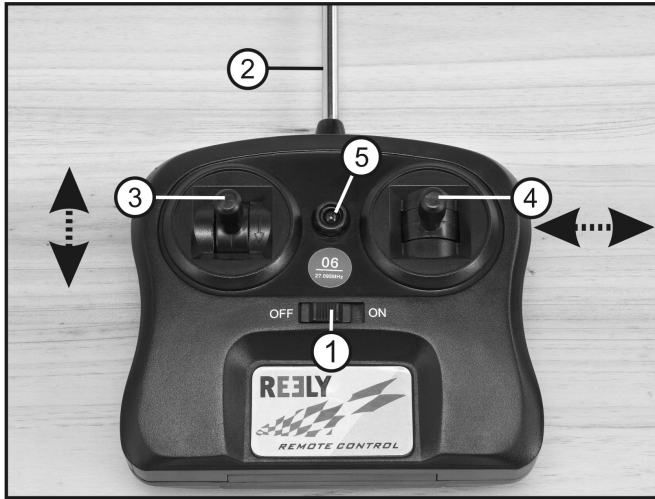

Figure 5
Check the function for forward and reverse driving: The drive lever of the transmitter (figure 5, item 3) permits control of the model's driving direction. If you push the lever forward, the two ship's propellers need to turn and the boat moves forwards. If you push the lever backward, the two ship's propellers need to turn and the boat moves backwards.
Check the function „driving to the left“. The drive lever remains in the neutral position for this function test. Push the control lever of the transmitter (figure 5, item 4) to the left. Now the right ship's propeller has to turn.
Check the function „driving to the right“. The drive lever remains in the neutral position for this function test. Push the control lever of the transmitter (figure 5, item 4) to the right. Now the left ship's propeller has to turn.
Push the drive lever (figure 5, item 3) to the front. The model starts to drive forward. Push the drive lever (figure 5, item 3) to the rear. The model starts to drive backwards. Turning the remote control steering lever (figure 5, item 4) to the left or right will cause your model to turn in the respective direction.